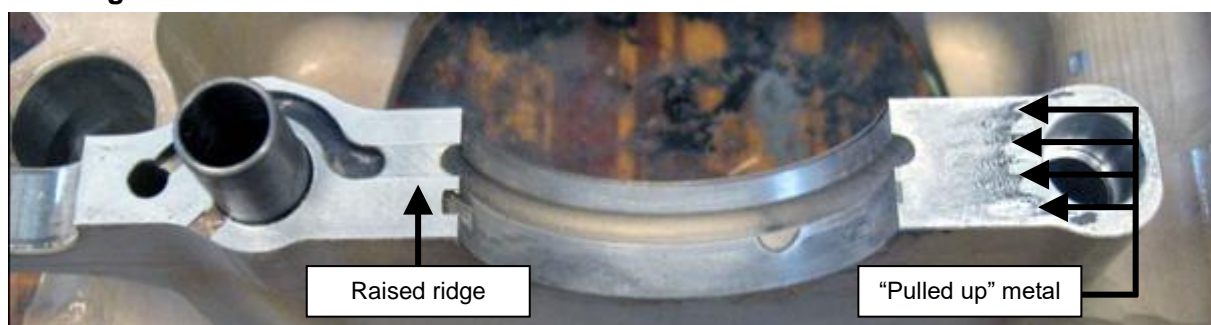

Figure 214 – Crankcase Fretting
- Cases which have suffered fretting can be identified as shown in Figure 214. There will be characteristic markings on the crankcase joining face near the main bearing journals which can be felt by scratching with a fingernail – the raised portions will be clearly evident.